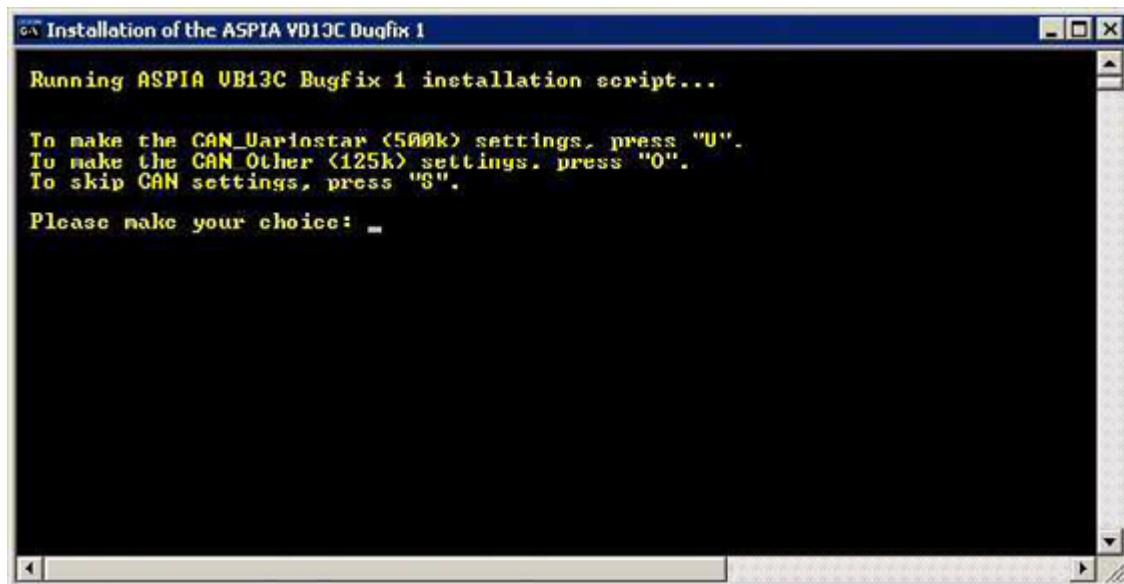

Fig. 17: CAN_Variostar_other
5. Enter the correct CAN-settings when "Please make your choice" appears in the window (Fig. 17 / p. 29).